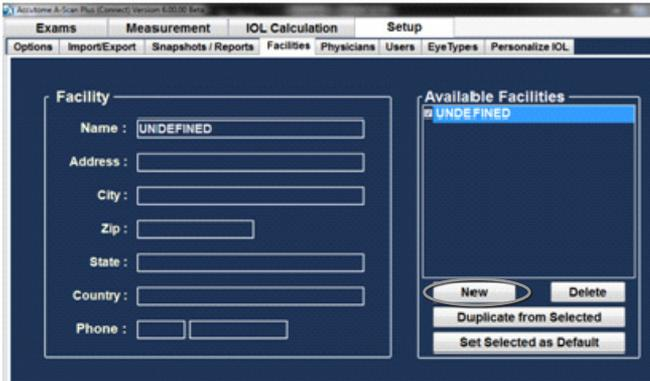

Figure 5.29 - Selecting “New” Facility
1. In the Facilities screen select “New” as shown in Figure 5.29 below.